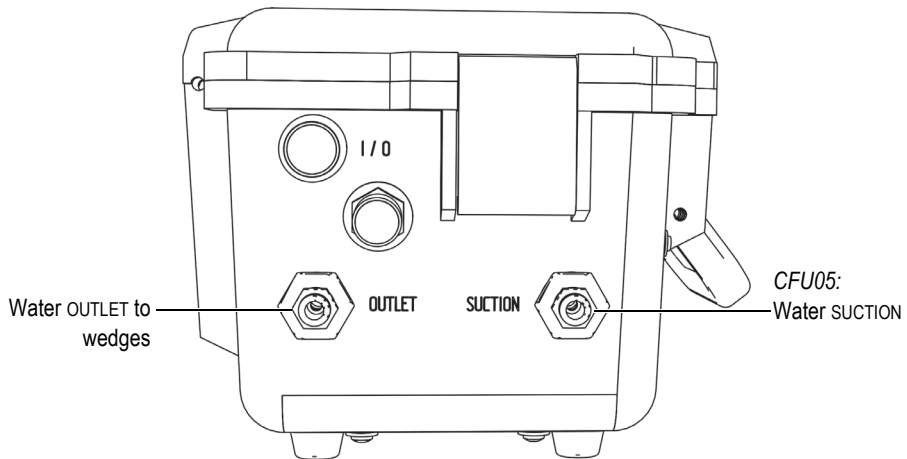

Figure 2-3 Plastic quick-coupling connections
- The plastic quick-coupling connections. These connectors are shown on the CFU05 in Figure 2-3 on page 29, since all connectors of this type appear on that water pump.